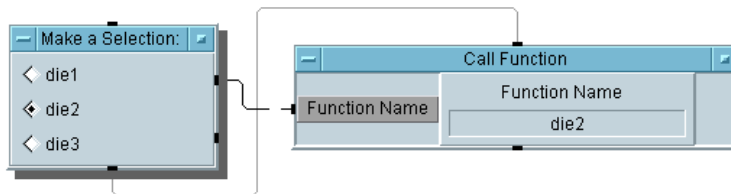

Figure 10-21. The Dice Program (Detail View)
10. Click `Device` ⇒ `Call`. Select `Add Terminal` ⇒ `Control Input`, then select `Function Name`, and click **OK**. The `Function Name` control pin accepts an `Enum` or `Text` value as input. Connect the `Radio Buttons` data output pin to the `Function Name` input terminal on the `Call Function` object. Connect the `Radio Buttons` sequence out pin to the sequence in pin of `Call Function`. Click on `die2` in `Make a Selection:` and notice that the `Call Function` Name changes to `die2`, as shown in Figure 10-21.